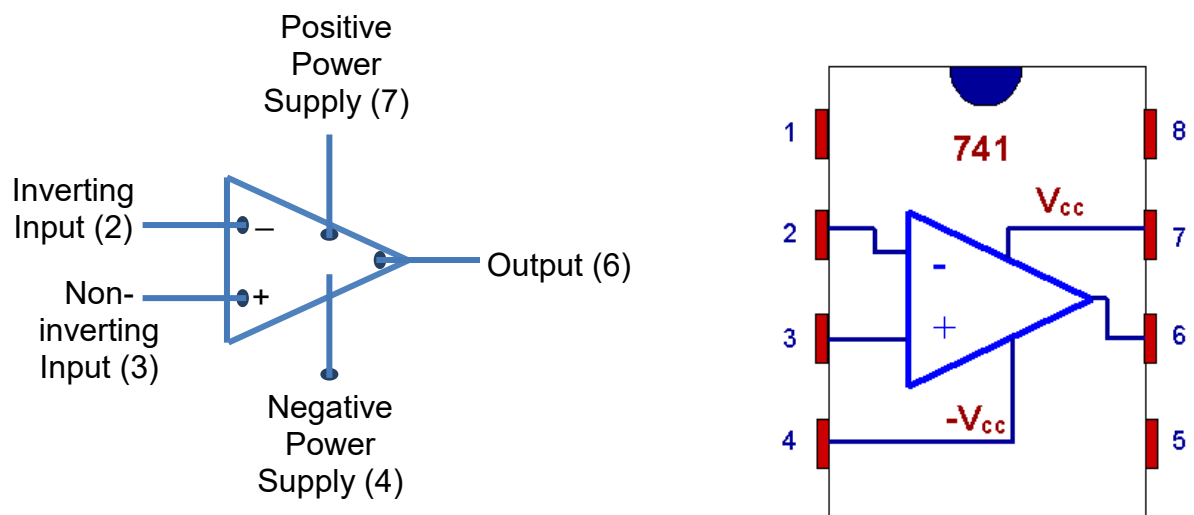

Figure 4.2 – Schematic diagram and pin configuration for the LM741N Op-Amp.
Operational Amplifiers: As discussed in class, a typical op-amp has five connections as shown in Figure 4.2: Two inputs, two power supplies, and one output. In the lab, we will use the LM741N op-amp which comes in an eight pin DIP (dual in-line package) integrated circuit (IC). The pin connections for this particular op-amp are also shown in Figure 4.2. Note that there is a small semi-circular notch on one end of the IC so that you can tell which end is pins 1-4 and which end is pins 5-8. The size and spacing of the pins on the IC have been carefully constructed so that the IC will plug nicely into your breadboard as shown in Figure 4.3. Given the positioning of the two resistors in Figure